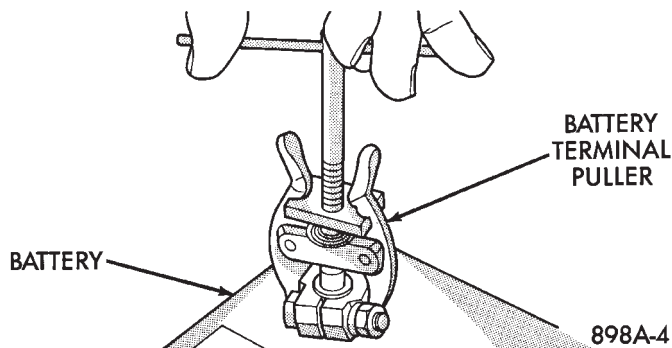
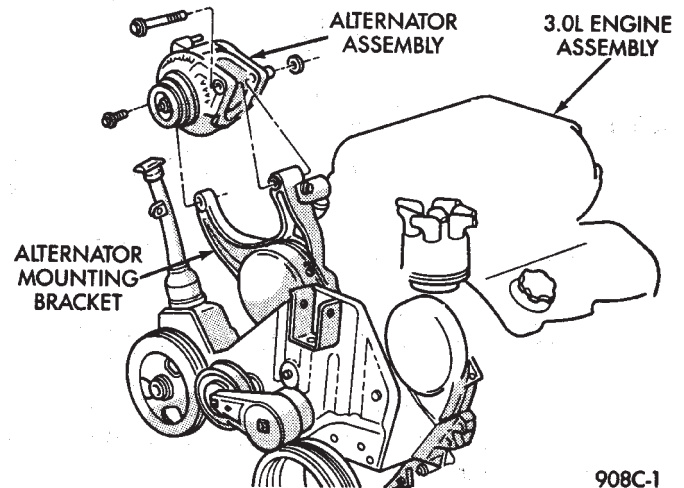
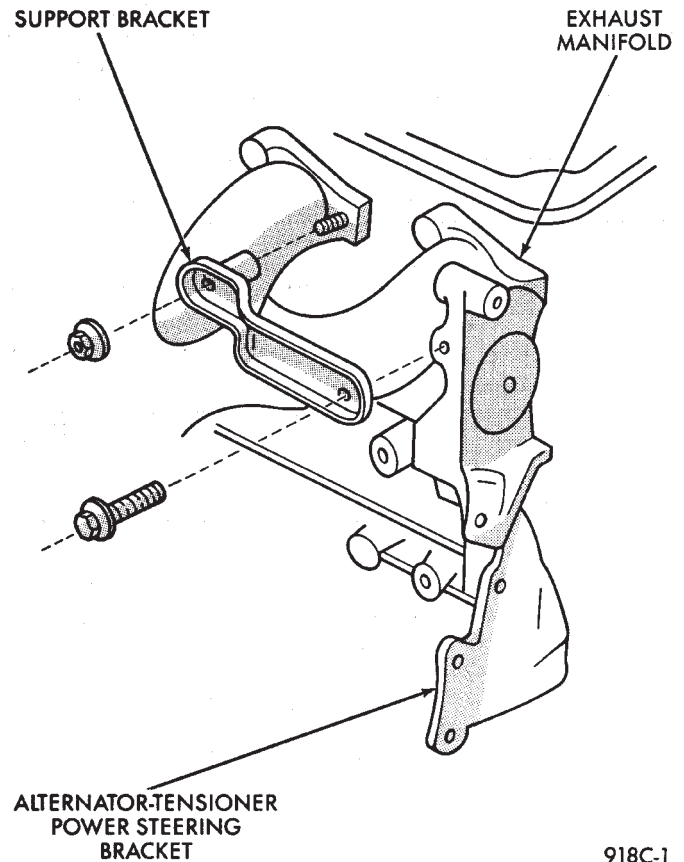

Fig. 1 Remove Battery Negative (-) Cable
Fig. 6 Remove or Install Alternator Mounting Bolts—3.0L Engine
Fig. 7 Support Bracket for Alternator Tensioner Power Steering Bracket
- (1) Disconnect battery negative cable (Fig. 1).
(1) Disconnect battery negative cable (Fig. 1).
(2) Remove alternator drive belt. Refer to Group 7, Cooling System.
(3) Remove the alternator mounting bolts and separate the alternator from the mounting bracket (Fig. 6).
(4) Remove the B+ terminal nut, field terminal nuts, and ground/wire harness hold-down nuts. Remove wire connectors.
- (1) Disconnect battery **NEGATIVE** cable (Fig. 1).
- (2) Remove alternator drive belt. Refer to Group 7, Cooling System.
- (3) Loosen, but do not remove the nut on the support bracket at exhaust manifold (Fig. 7).
- (4) Remove the alternator tensioner power steering bracket bolt.
- (6) Remove the alternator mounting bolts.
- (7) Remove and position the power steering reservoir from the alternator mounting bracket. Do not remove the hoses from the reservoir.
- (8) Remove the three alternator support bracket bolts (Fig. 7).
- (9) Remove intake plenum-to-alternator mounting bracket bolt.